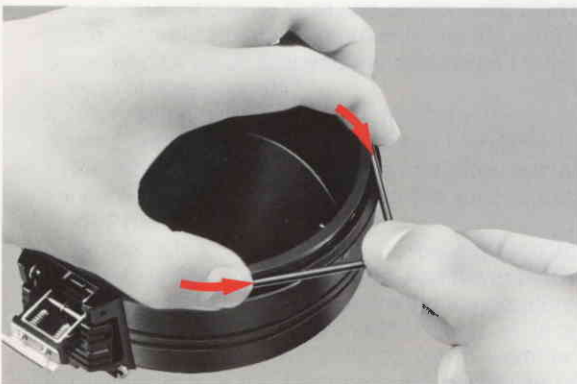

Fig. 1
1. To remove the O-rings, except those in the synchro socket and sensor socket covers, grasp the ring between your thumb and forefinger. Pinch your fingers together as you slide them in the direction of the arrow to create slack in the O-ring. Then grasp the slack portion with your other hand and pull the ring off (see Fig. 1).